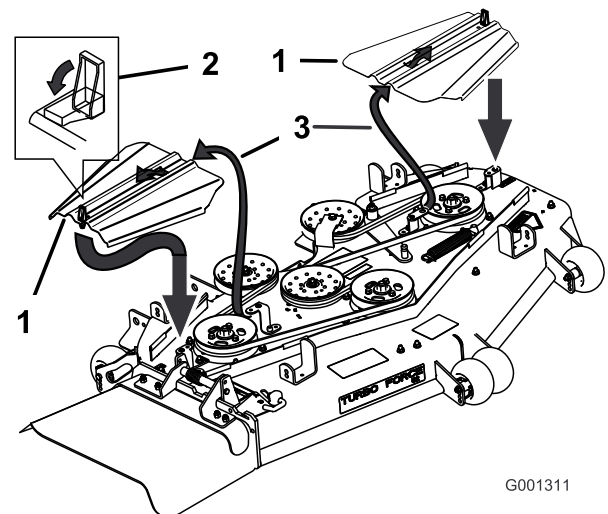

Figure 57
3. Remove the belt covers (Figure 57).
9. Install the belt covers by sliding the cover into the tab, install the bolts, and close the latches (Figure 57).